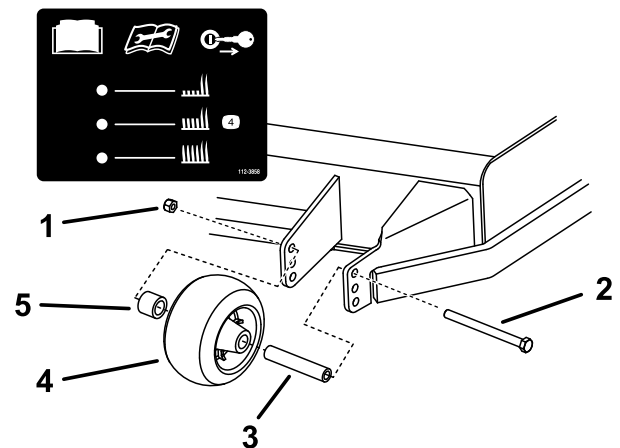
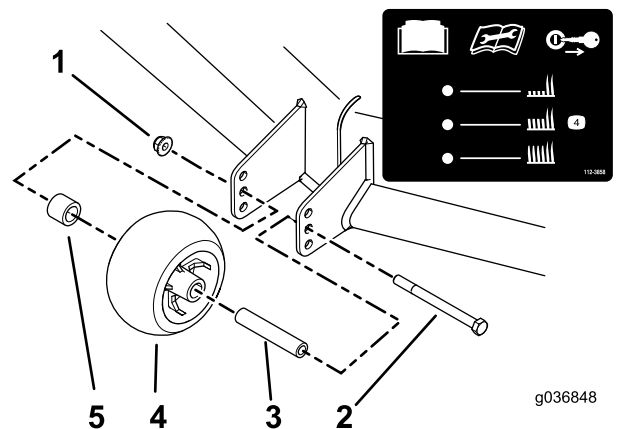

Figure 30
Figure 31
3. Adjust the anti-scalp rollers as shown in Figure 30 and Figure 31.